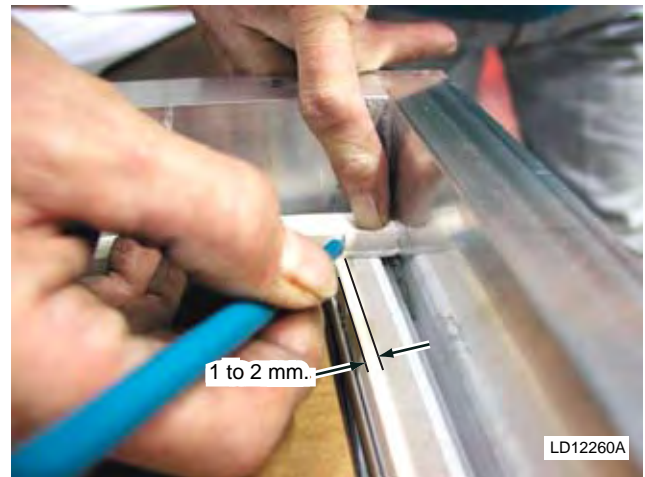

FIG. 5-57 – MARK VERTICAL GASKET
- Lay the vertical gasket across the horizontal gasket and place a mark 1 to 2 mm past the edge of the horizontal gasket (see Fig. 5-57).